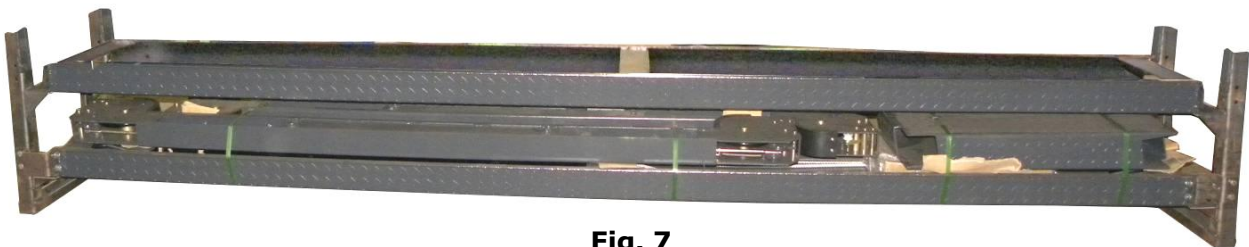

Fig. 7
3. Take off the drive-in ramps and columns (See Fig.7 ).